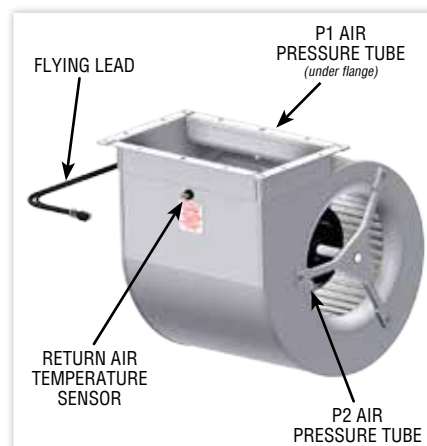

FIGURE 25.
- 17.11.3 Remove the ESYS (red ignition box) & gas valve venturi assembly. Refer to 17.10 & 17.9 and Figure 25.
- 17.12.2 Unplug the lead from the ESYS (red ignition box) and earth wire from the back of the electrode. See Figure 25.